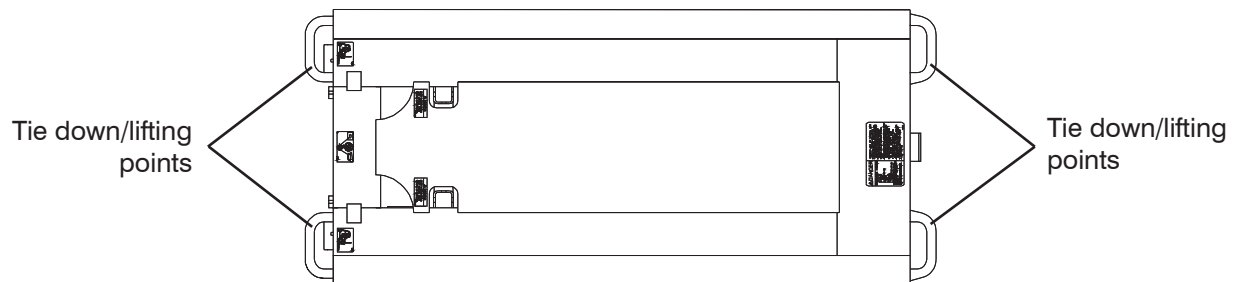

Figure 3-14. Tie Downs/Lifting Points
- The lifting/rigging may be attached to all four lifting points as illustrated in Figure 3-14.
**When transporting, the aerial platform must be secured to the truck or trailer deck. Tie downs are available as illustrated in Figure 3-14.**